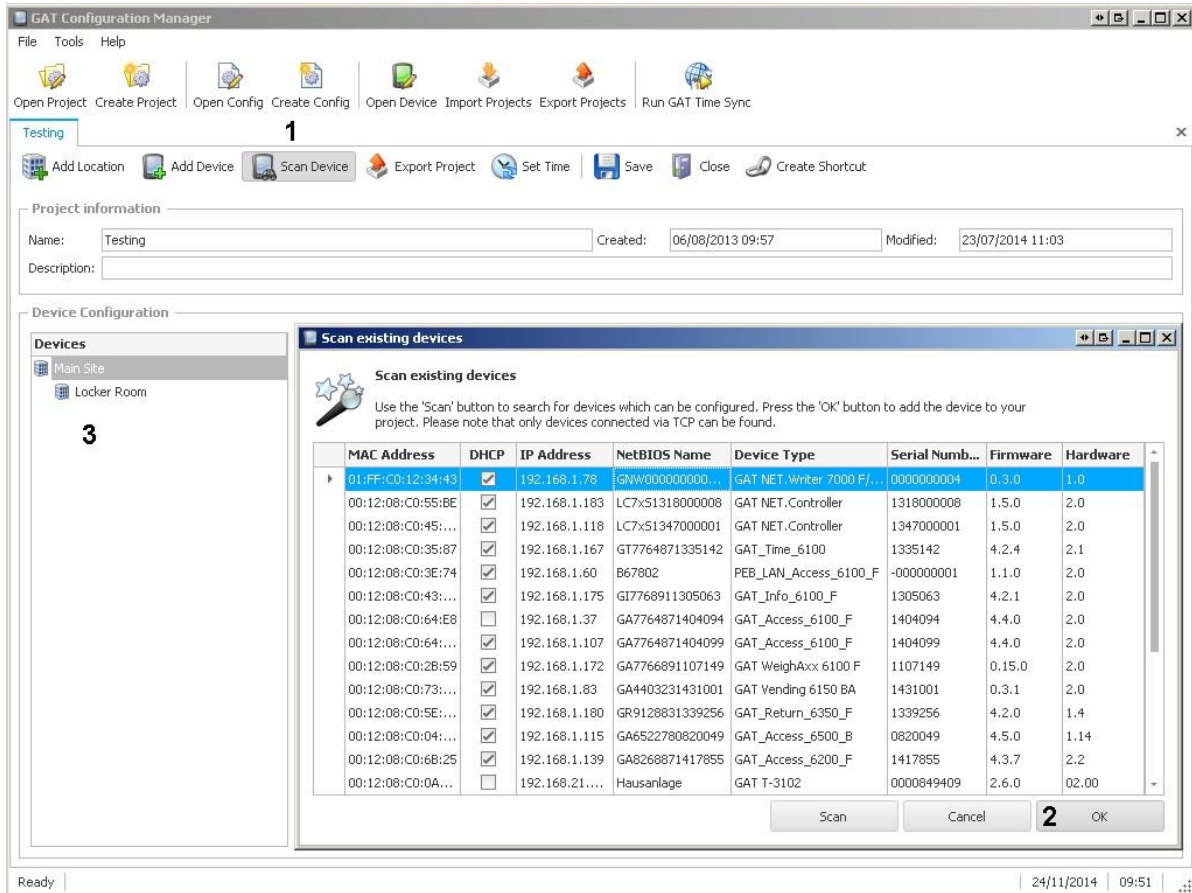

Figure 4.3 – GAT Config Manager - scan devices
- Once a project is established, click on the “Scan Device” icon (1 in Figure 4.3).
- The selected device is highlighted in blue as shown in Figure 4.3 .
- Click on “OK” (2 in Figure 4.3).
- The selected device is added to the “Devices” list (3 in Figure 4.3).